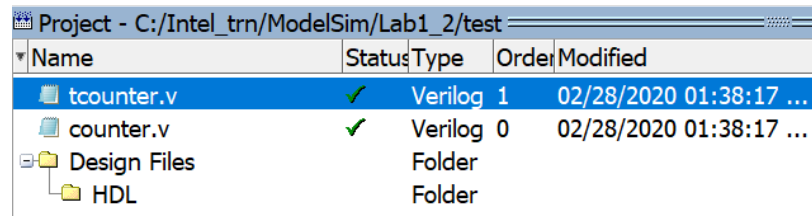

Figure 46
- A '+' icon appears next to the *Design Files* folder in the Project window (Figure 46).